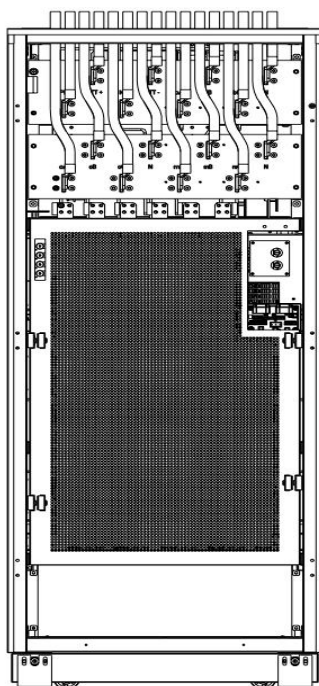
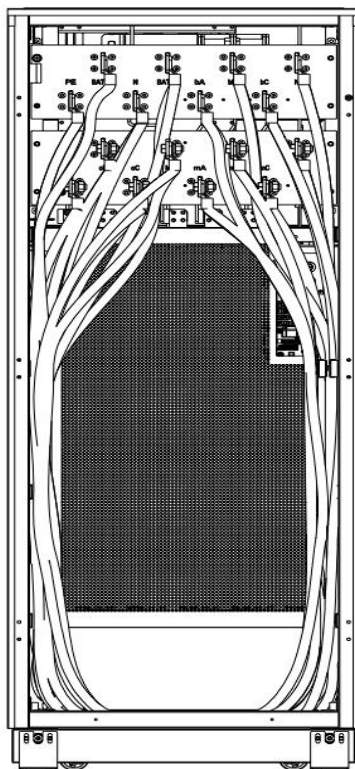

Figure 3-10 Diagram of Top Cable Entry
Figure 3-11 Diagram of bottom Cable Entry
The cabinet support enters from both the top side and the bottom side. The cable entry is shown in Figure 3-10. The bottom entry mode and dimensions of the system are shown in Figure 3-11.
Step 4: Connect the AC main input cable to the input terminal (mA, mB, mC, N); Connect the AC bypass input cable to the bypass input terminal (bA, bB, bC, N); Connect the output cable to the output terminal (oA, oB, oC, N) as figure 3-10 or 3-11;